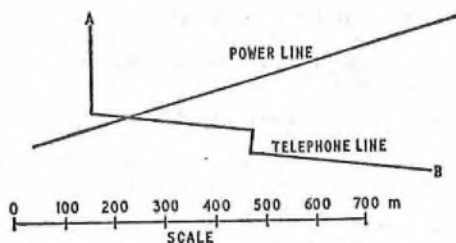
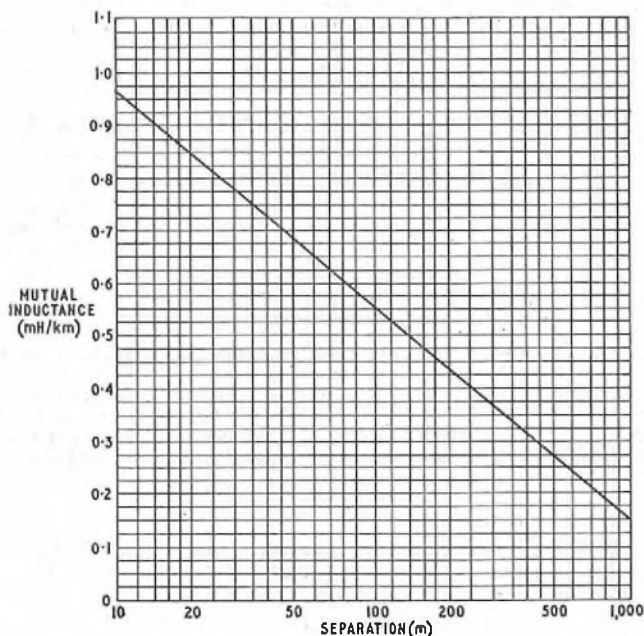

Fig. 1
Fig. 2
Q. 8. A 50 Hz power line runs close to an overhead telephone line as shown in Fig. 1, which is to scale. Fig. 2 shows the relationship between mutual inductance and separating distance. To what value must the fault current in the power line be limited so that the longitudinal induced voltage in the telephone line shall not exceed 430 volts?